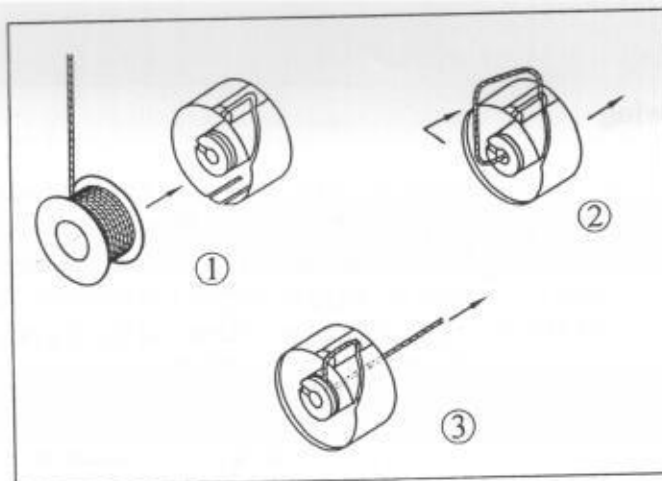

Fig. 6
(A) The lower thread in the inner shuttle peg is threaded according to the order (1) – (3) illustrated in Fig.6.